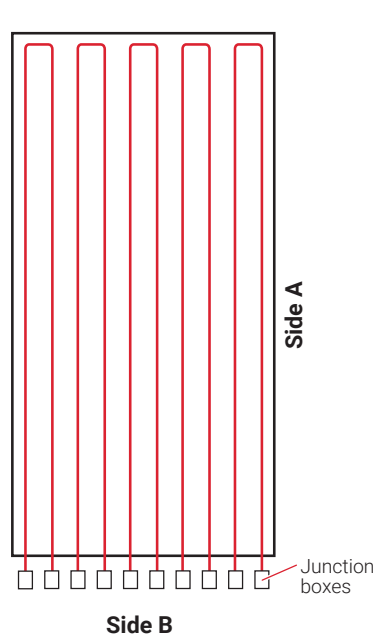
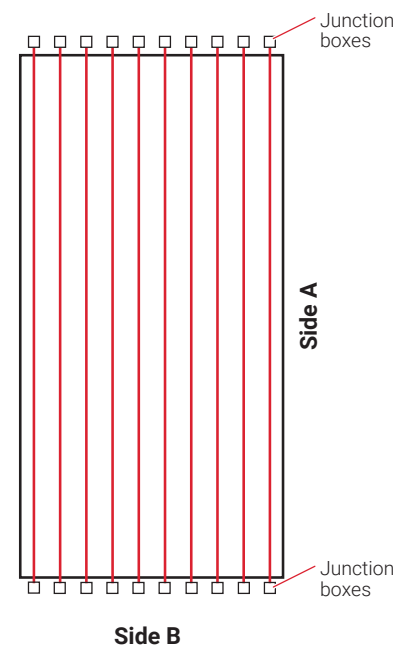
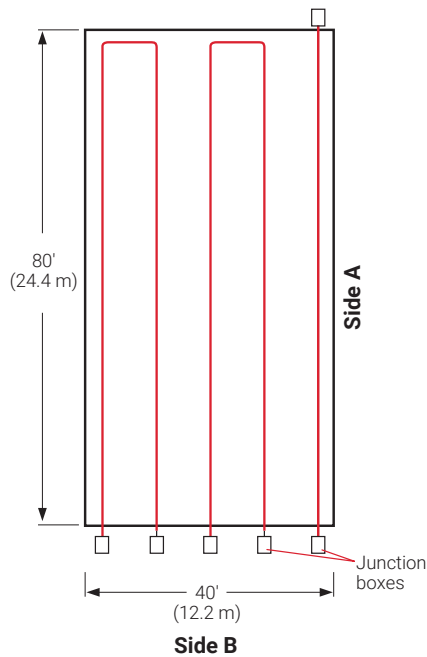

Fig. 9 Hairpin layout
Fig. 10 Straight run layout
Fig. 11 Layout for example (two hairpins and one straight run)
To calculate the number of conduit runs and heating cable length from your scaled drawing, refer to Fig. 9 and Fig. 10.
Define Side "B" as the side that is perpendicular to the conduit runs. Refer to Fig. 9 and Fig. 10 for examples of Side A and Side B.
1. The hairpin layout (Fig. 9) is used both in smaller freezers where it results in material and labor savings over the straight run layout (Fig. 10), and in other freezers where only one wall of the freezer is accessible for mounting junction boxes.
2. The straight run layout (Fig. 10) is used when the freezer dimension exceeds one-half the maximum heating cable circuit length (insufficient heating cable allowed for a run down and back).
When Side A x 2 is less than or equal to the maximum circuit length, then the conduit run can be looped into the hairpin layout (Fig. 9). In a hairpin configuration, when you have an odd number of conduit runs, one run will be a straight run as shown in Fig. 11.
Power supply	One 20 A circuit breaker Run in two hairpin loops and one straight run (see Fig. 11)